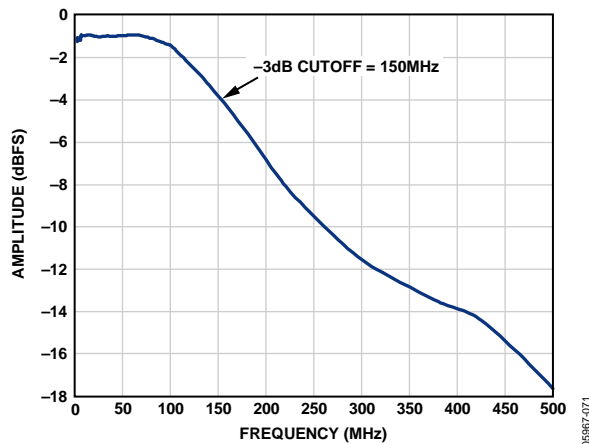

Figure 87. Evaluation Board Full-Power Bandwidth, AD9222-50
- **AIN:** The evaluation board is set up for a transformer-coupled analog input with an optimum 50  $\Omega$  impedance match of 150 MHz of bandwidth (see Figure 87). For more bandwidth response, the differential capacitor across the analog inputs can be changed or removed. The common mode of the analog inputs is developed from the center tap of the transformer or AVDD\_DUT/2.